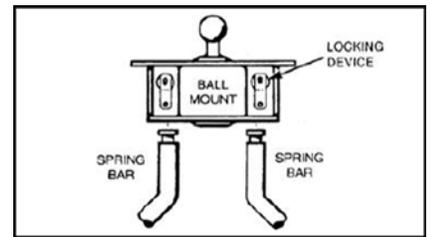
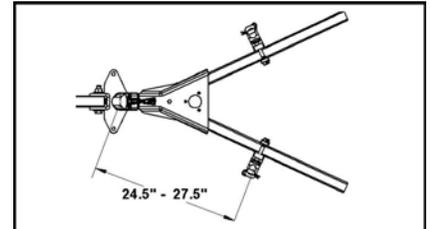

Figure 4: WD spring bars attached to head through socket and secures with clip.
Figure 5: L brackets can be installed between 24-1/2" to 27-1/2".
•To remove Spring Bars, just swing bar around under the bumper and it will drop free (see Figure 4).
•Position inner ⑭ and outer frame brackets ⑮ 27.5" from the center of trailer coupler with bolt ⑫ through the top bolts as shown. Snug nut ⑬ to the back of the inner frame bracket ⑭. Insert lower bolt ⑫ with serrated washer ⑯ through inner frame bracket ⑭ as close to the underside of the trailer frame as possible, and snug bolt. Torque both bolts to 130 ft lbs. Note that brackets can be positioned up to 3" towards truck from nominal to clear objects on frame, but this may interfere with mounting for a friction sway bar.
•Orient L bracket ⑪ so that the bottom portion of the bracket is ~3" above the unloaded spring bar. Secure the L bracket ⑪ to outer frame bracket ⑮ using 2 bolts ⑰ and lock washers ⑱. Bolts should be spaced with either 1 or 2 open holes between them (do not put both bolts next directly next to each other). Be mindful to not use the threaded hole that bolt ⑫ has used. Torque bolts ⑰ to 80 ft lbs.
•Installing and removing spring bars onto L brackets: extend trailer jack until spring bar ends are above the L brackets. Adding a 6" x 6" block or support under the jack will make extension and raising the trailer faster and protect the jack from being extended to max travel. The higher you raise the trailer the easier to install or remove spring bars from L brackets. Swing spring bars on to L brackets as close to trailer frame as possible. Secure the spring bars by dropping in covers ⑱. Then secure the covers ⑱ using the pins ⑲ (see Figures 5 & 6).